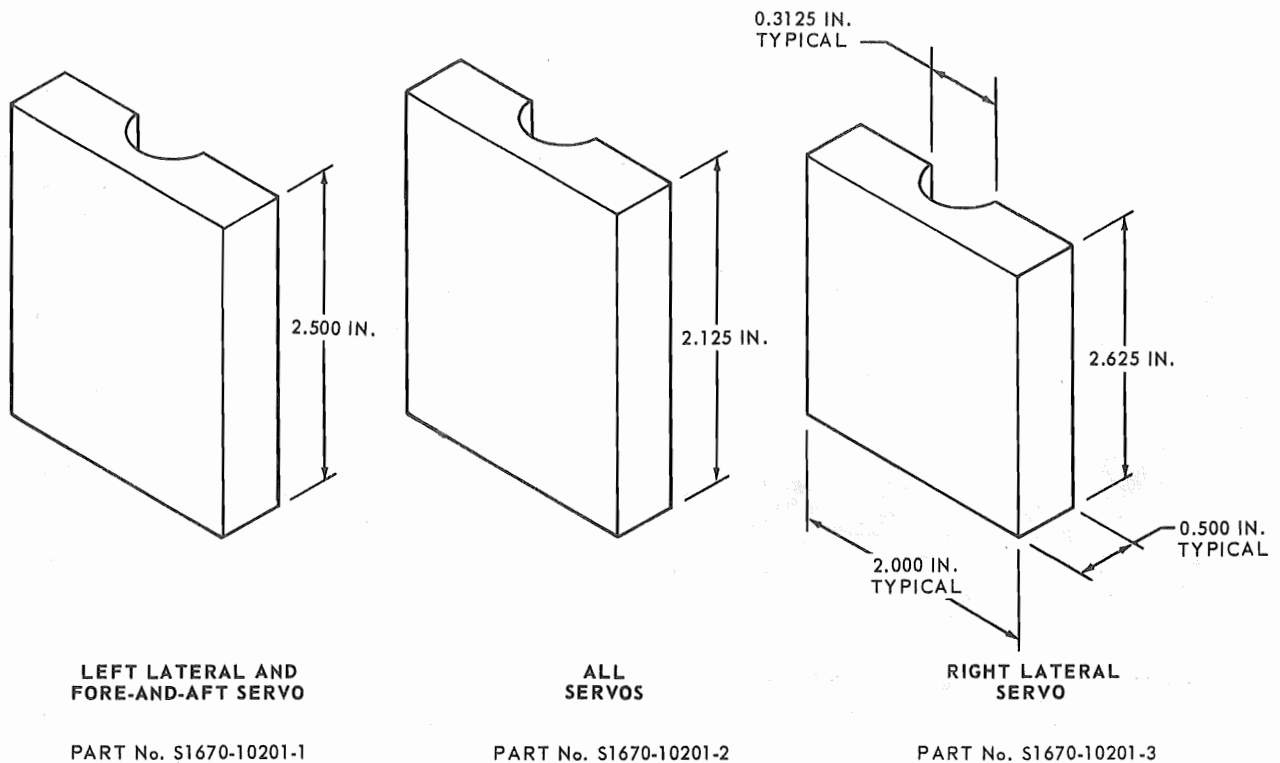

Figure 7-34. Rigging Block Dimensions
l. Place rigging block, part No. S1670-10201-1 (figure 7-34), against exposed portion of left lateral servo power piston shaft. Check that top of block touches bottom of servo housing and that bottom of block seats on piston shaft rod-end check nut which should be snug against rod end. Adjust main control arm rod end, if necessary, to obtain a snug block fit.
m. Place rigging block, part No. S1670-10201-1 (figure 7-34), against exposed portion of fore-and-aft servo power piston shaft. Check that top of block touches bottom of servo housing and that bottom of block seats on piston shaft rod-end check nut. Adjust main control arm rod end if necessary to obtain a snug block fit.